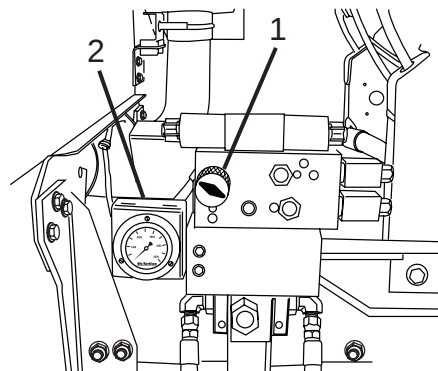

Figure 4
4. Turn the PRV knob (Figure 4, Item 1) all the way counterclockwise to minimize the pressure applied to the Bridgmaster® trailer when the drum is empty. Pressure will be displayed on the gauge (Figure 4, Item 2).